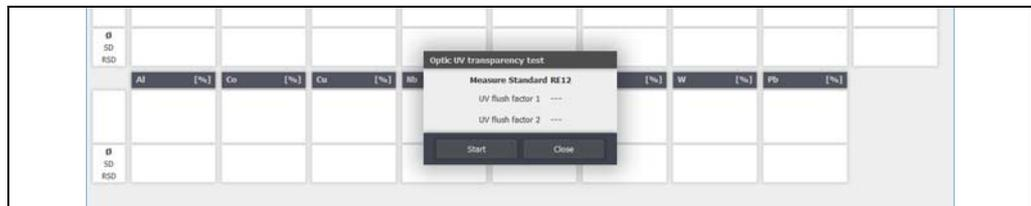

Fig. 5-9 Measuring the recalibration sample
3. Place the displayed (fig. 5-9) and freshly prepared recalibration sample on the spark stand and fix it in place with the hold-down device.